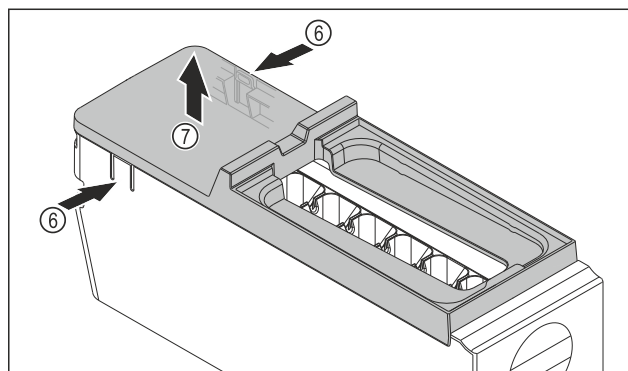

Fig. 125
- Removing the cover of the EasyTwist-Ice body: With one hand, press the tabs Fig. 125 (6) on both sides of the EasyTwist-Ice body.
- With the other hand, remove the cover Fig. 125 (7) upward.